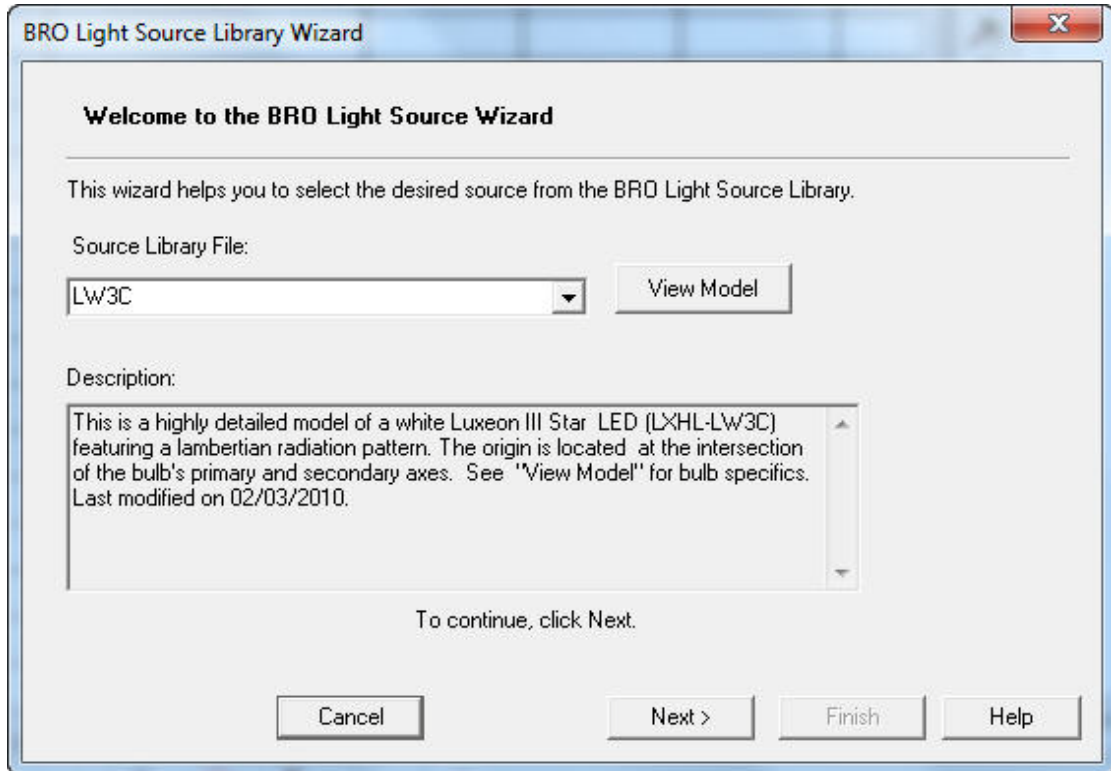

Figure 45 Light Source Library Wizard in ASAP, with description of LW3C LED source file
- 6 Double-click **LW3C** on the Quick Start toolbar to display the Light Source Library Wizard. The wizard facilitates setting up sources for use in the Builder and script files. See Figure 45.